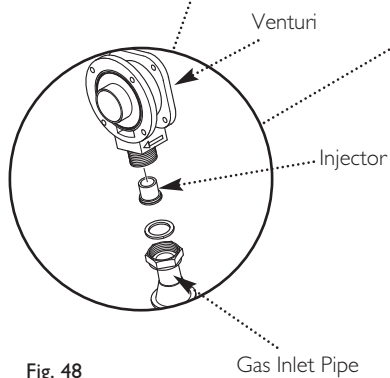

Fig. 48
6. Undo the nut on the gas inlet pipe to the venturi (Fig. 48) and pull the sensing pipe off the fan.